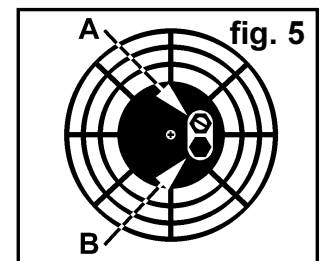

fig. 5
5.1. **Running the heater on paraffin.** The heater has been factory pre-set for paraffin and will produce the correct heat output when first used from new. You should run the heater at the pre-set output in order to ensure the long life, safety and reliability of the unit. Minor adjustments to heat output may be required during the first 60 hours of use. These adjustments are made to the air pressure valve (see fig.5.A). Once the unit has completed the running-in period it should not be necessary to alter the air pressure again until a new air filter is fitted or a change of fuel takes place.
- 5.1.4. To adjust the heat output, locate the air pressure valve (fig.5.A), which is in the centre portion of the air inlet grill at the back of the unit. Hold the adjusting screw steady with a screwdriver and loosen the locking nut. Turn the screw clockwise to increase the air pressure and thus increase the heat output. Turn the screw anticlockwise to decrease the air pressure and thus decrease the heat output. Make small adjustments only and give the heater time to stabilise before observing the effect on the colour of the dome. When the colour is normal as described above in section 5.1.3.(a) tighten the locking nut.
- 5.2.3. Plug back into the mains supply and start the heater, run for two minutes before making any adjustment to the air pressure valve. Locate the valve (fig.5.A) which is in the centre portion of the air inlet grill at the back of the unit. Hold the adjusting screw steady with a screwdriver and loosen the locking nut. Turn screw half a turn anticlockwise to decrease the air pressure, and thus decrease the heat output, to compensate for the hotter burning diesel fuel. Retighten the locking nut.
- 5.3.1. If there is any doubt about the efficient operation of the heater, the air pressure should be checked more exactly using a pressure gauge which will measure up to 30 p.s.i. and has a 1/8" BSP thread. With the heater turned off and unplugged from the mains, remove the threaded plug from below the air pressure valve and attach the gauge, see fig.5.B. Start the heater and compare the pressure reading with the chart shown on the right. If the reading differs from the chart this indicates that maintenance is required as laid out in Section 6. You should also investigate whether the environmental conditions at the location of the heater are suitable, with particular reference to the amount and quality of the air supply.